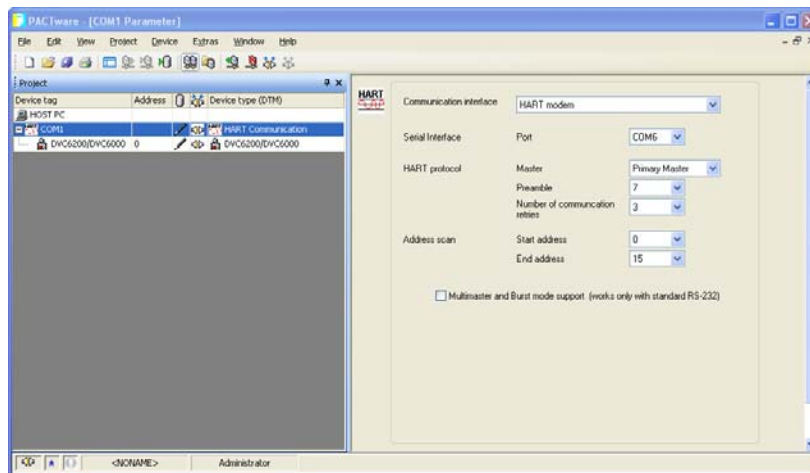

Figure 5-3. Setting the CommDTM
**Step 4:** Set the appropriate settings for the CommDTM and DeviceDTM (see figure 5-3 and 5-4).